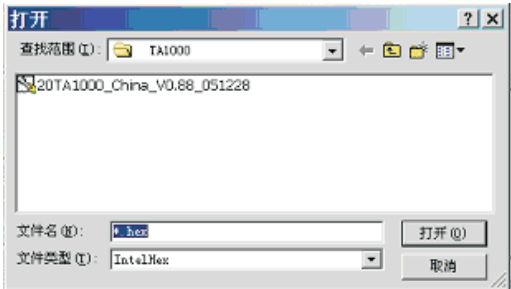

Fig. 8
2. Press the Load hex then select the hex as shown in Fig. 8.